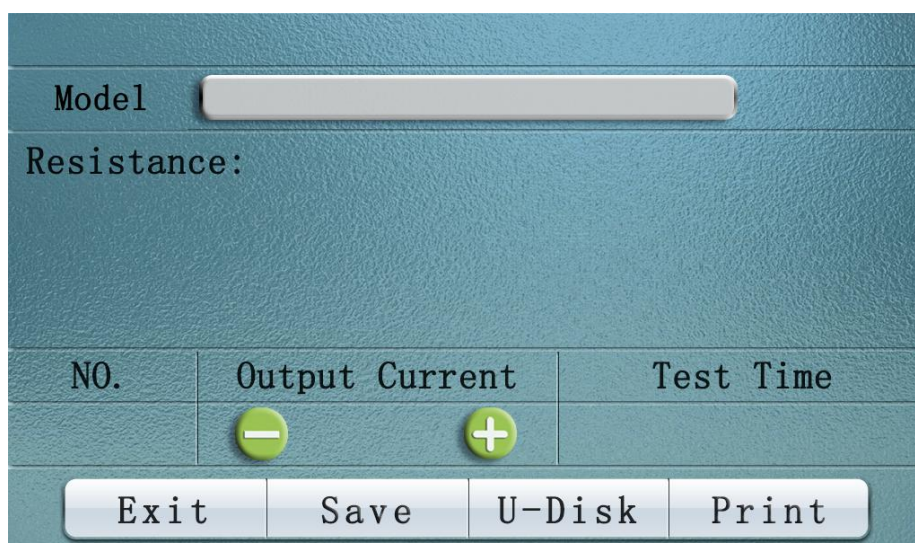

Figure 3
3、After the current is selected, click **"Start test"**, which shows that "please wait while charging" enters the test state. After a few seconds, the test result will be displayed, as shown in figure 3